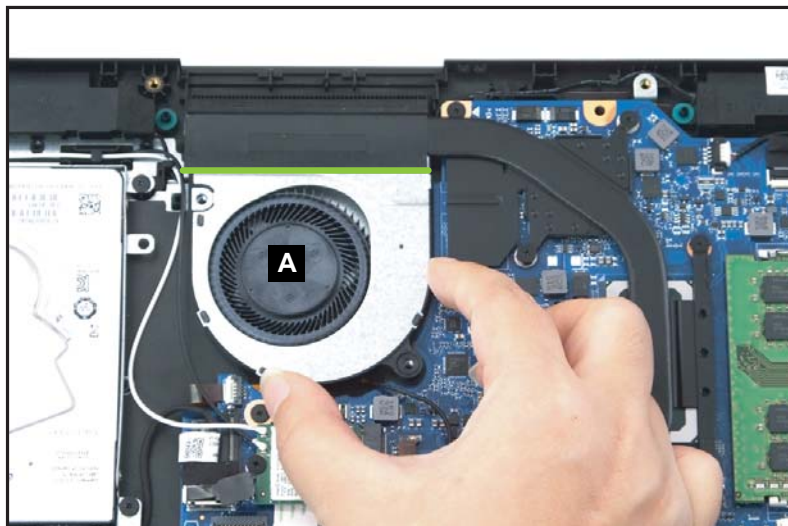

Figure 1-112. Replacing the Fan
1. Slide the upper side of the fan (A) under the mylar of the heatsink (highlighted by a green line) first, and then place the fan onto its slot until it is fully seated (Figure 1-112).